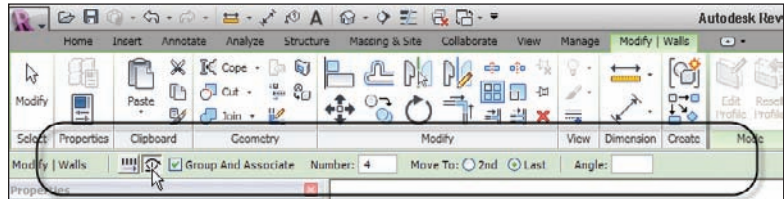

FIGURE 4.12 Setting the options for the Radial array
3. With the Array command active, you will see some choices available on the Options bar, as shown in Figure 4.12. For this procedure, click the Radial button.
6. Click the Move To: Last button (see Figure 4.12).